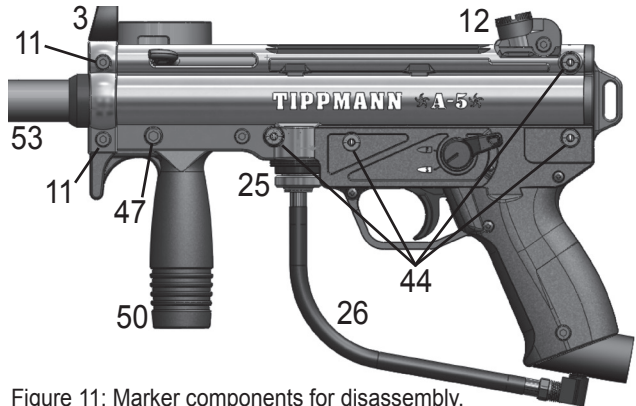

Figure 11: Marker components for disassembly.
- b. Remove the screw (#47, Figure 11) using a 3/16" Allen wrench.